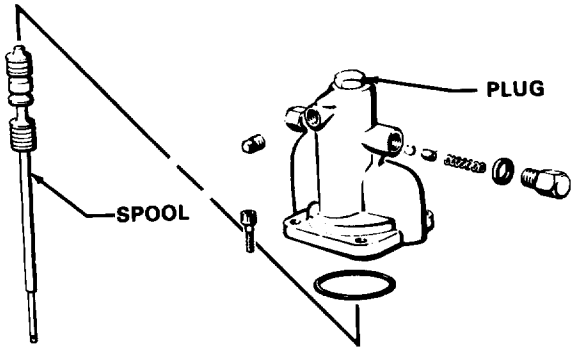

Fig 7
8. Relieve fluid pressure when not using the sprayer to avoid the pump stalling out at the top of its stroke. If the pump stalls, follow the **Pressure Relief Procedure Warning** on page 10, remove the plug from the top of the hydraulic motor and push the spool all the way down. See Fig 7. Replace the plug and restart the sprayer.